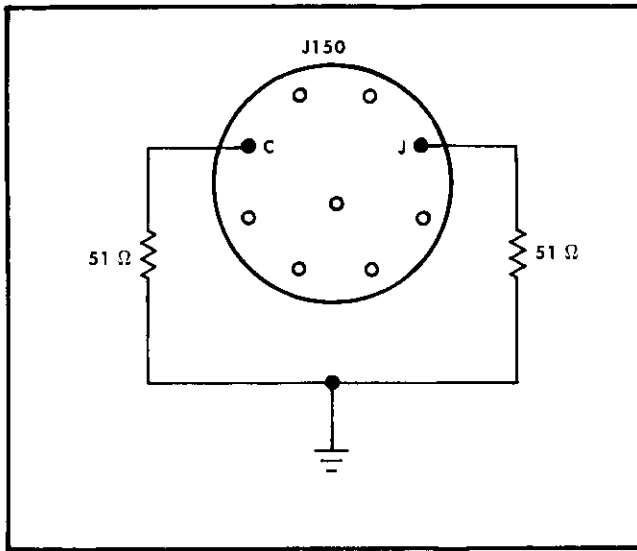

Fig. 4-1. Test setup for checking amplifier DC and low-frequency response.
2. Disconnect the Probe's Amphenol connector from the Amplifier (or the 1A5). Then connect two 51 Ω resistors between ground terminals C and J of J150, as shown in Fig. 4-1. Be careful not to contact other terminals of J150; as much as 100 V may be present on them.